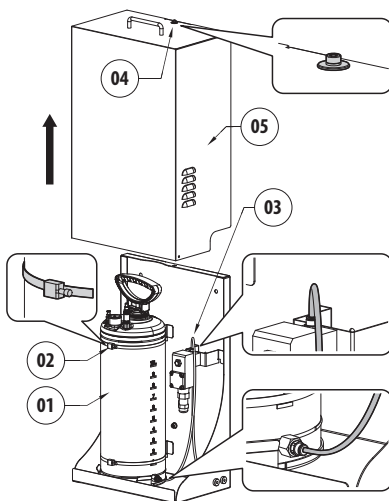

Fig. 4
It is possible to install or service the pump without removing the tank (Fig. 4, page 11). To remove the tank (01), release the metal clamps (02) and disconnect the connecting pipe (03).